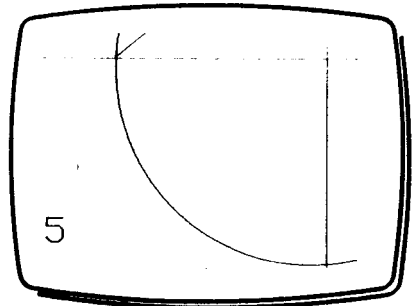

Fig 6
- 3 Press and release **T**, and the framed area will appear full-screen, (5) in Fig 6.